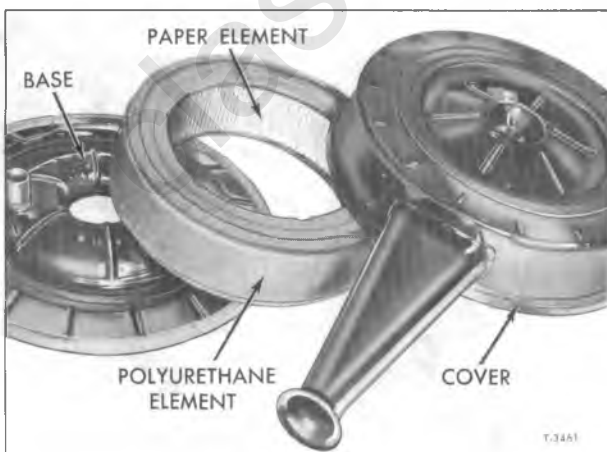

Figure 8—Air Cleaner—Paper Element with Polyurethane (Typical)
- DRY OR PAPER WETTED (Fig. 8)